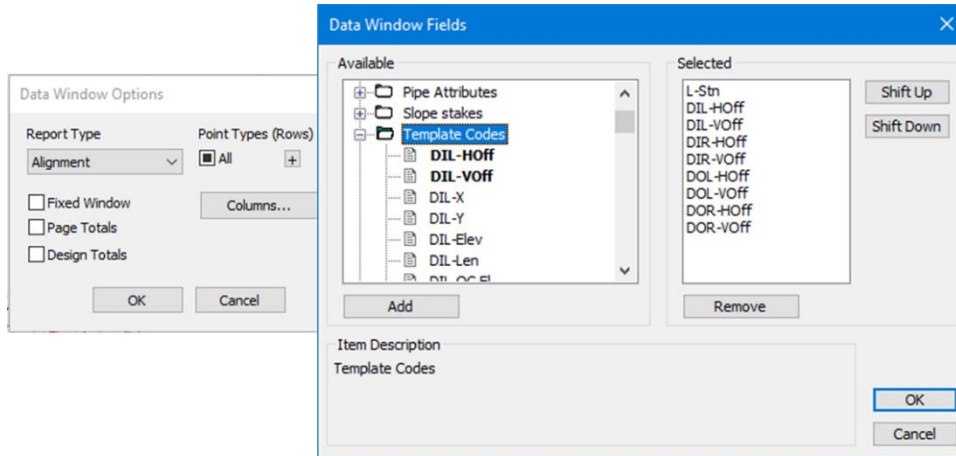

Figure 21-11: Selecting Point Code Offsets for Display in the Data Window.
29. To set up desired columns to display: press *Columns...* to open the *Data Window Fields* dialogue (Figure 21-11)
30. Remove all but *L-Stn*, expand the *Template Codes* folder and **Add** *DIL*, *DIR*, *DOL*, *DOR* Hoff and **Voff** for each of the available Template Codes (Figure 21-11).